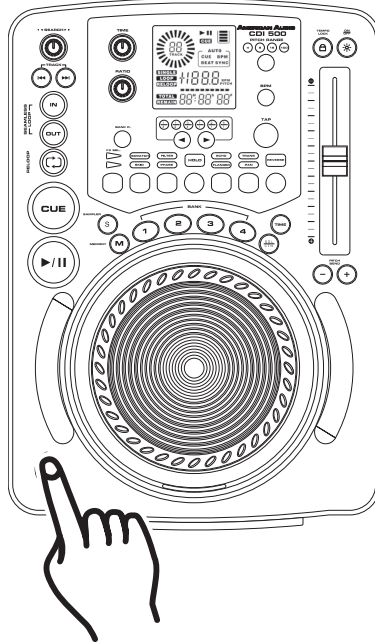

Figure 7: Press the Eject button to load and remove a disc. **Remeber:** When loading a disc always hold the disc by it edges and load the disc label side up.
The CDI-500™ can only play 3 inch and regular 5 inch CDs. When loading a CD into the player always hold the disc by it edge). Load the disc label side up and never touch the signal surface (the glossy side). To remove a disc from the player press the *EJECT BUTTON* (15), see Figure 7.